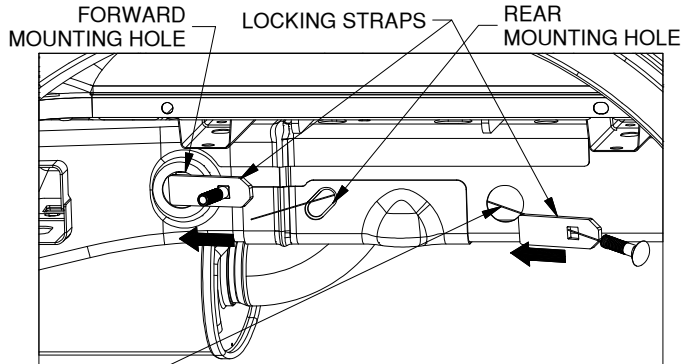
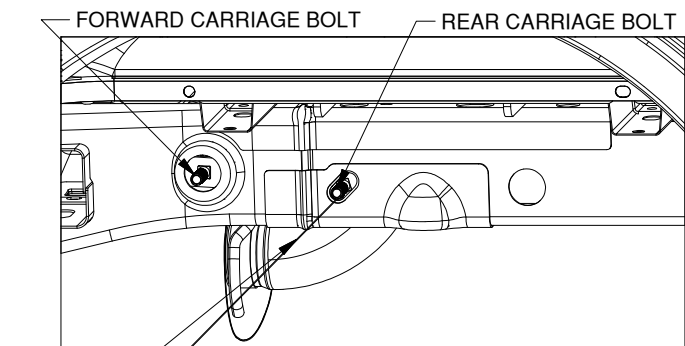
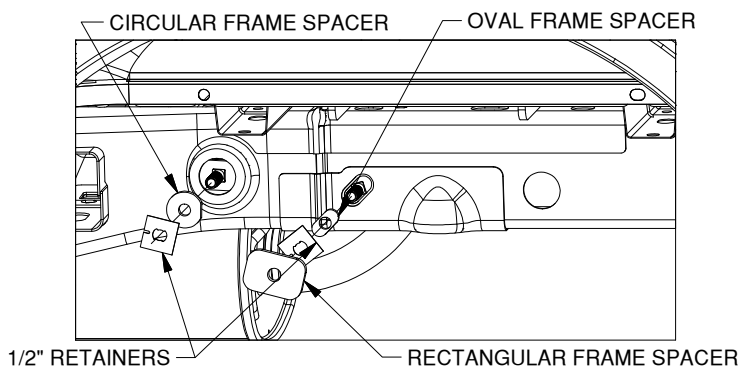

Figure C1: View of driver side wheel well.
Figure C2: View of driver side wheel well.
Figure C3: View of driver side wheel well.
1. **Install forward carriage bolt.** Each carriage bolt is held in the frame with a locking strap, frame spacer and 1/2" retainer. Locate the forward mounting hole shown in Figure C1. Attach the carriage bolt to the locking strap by passing the bolt through the strap. Insert the locking strap through the mounting hole, until it is completely inside the frame and only the carriage bolt is passing through the hole, see Figure C2. Install a circular frame spacer onto the bolt, see Figure C3. To prevent the bolt from falling into the frame, thread a retainer onto bolt until it is snug.
2. **Install rear carriage bolt.** Locate the rear mounting hole shown in Figure C1. Use a fish wire to thread the rear carriage bolt and locking strap into the mounting hole, see Figures C1 & C2. Install an oval frame spacer onto the carriage bolt, see Figure C3. Thread a retainer onto the bolt until it is snug against the frame. Place a rectangular frame spacer on the rear carriage bolt. Repeat Steps 1 & 2 on the other side of the truck.